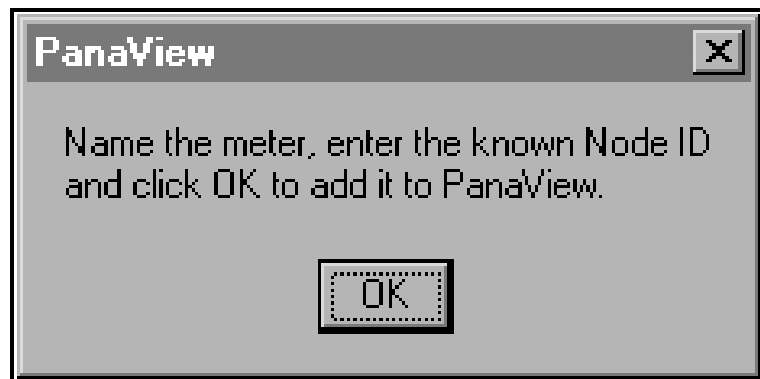

Figure 7: Confirmation Dialog Box
7. At the dialog box shown in Figure 7 on the previous page, click on the [OK] option button to add the meter and configure it. The dialog box shown in Figure 8 below appears.